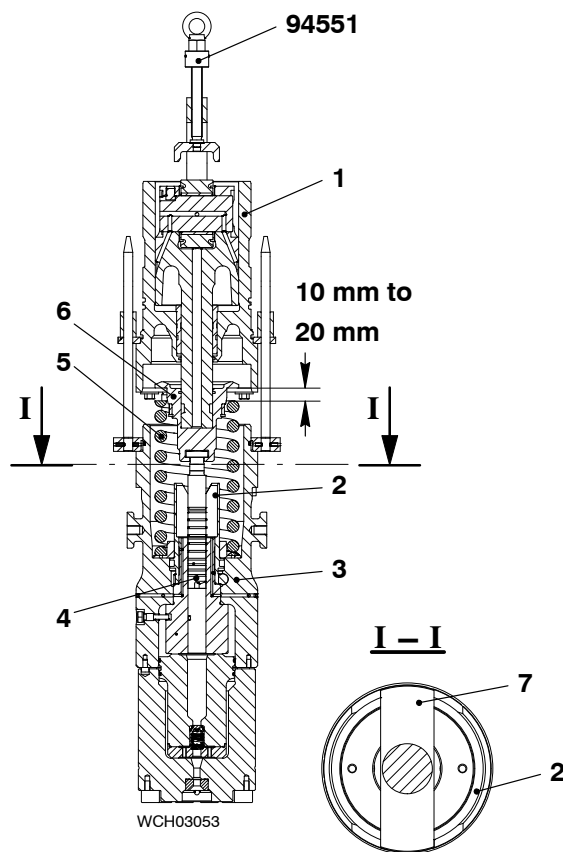
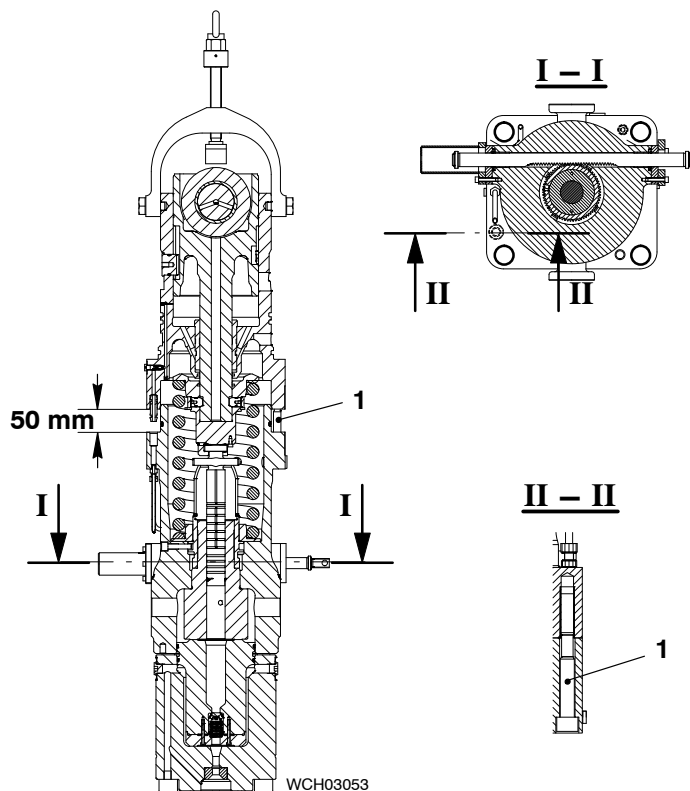

Fig. 22
Fig. 23
- 6) Lower the bottom housing (1, Fig. 22) on to the top housing (3) until the spring carrier (6) is approximately 10 mm to 20 mm above the spring (5).
- 7) Align the tabs(7) on the pump plunger (4) with the holes in the regulating sleeve (2).
- 8) Continue to lower the bottom housing (1) until the spring carrier (6) touches the spring (5).
- 11) Make sure that there is a clearance of 50 mm between the top housing and the bottom housing (see Fig. 23).
- 12) Put the two Allen screws (1) in position as shown.
- 13) Tighten equally with your hand the two Allen screws (1).